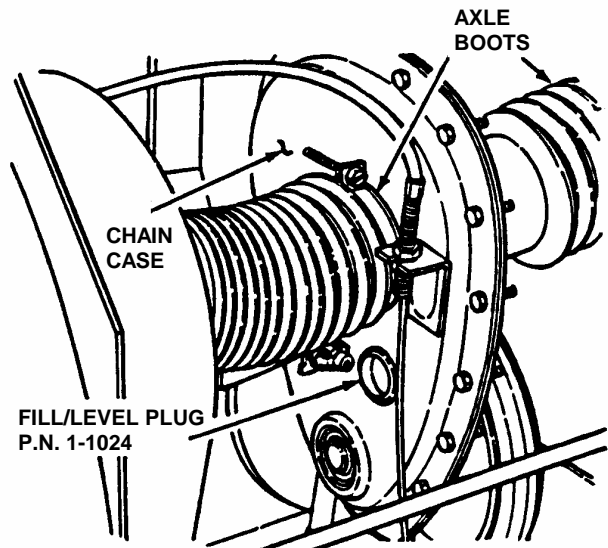

FIGURE 3.10
3. Check fill/level plug for damage. If signs of wear or cracks are visible, replace plug with new plug. See Figure 3.10.
4. To check lubricant in chain case, remove fill/level plug and look for lubricant on the internal components of the chain case. If no lubricant is visible, add "SNAPPER Transmission" grease as needed. See Figure 3.10.